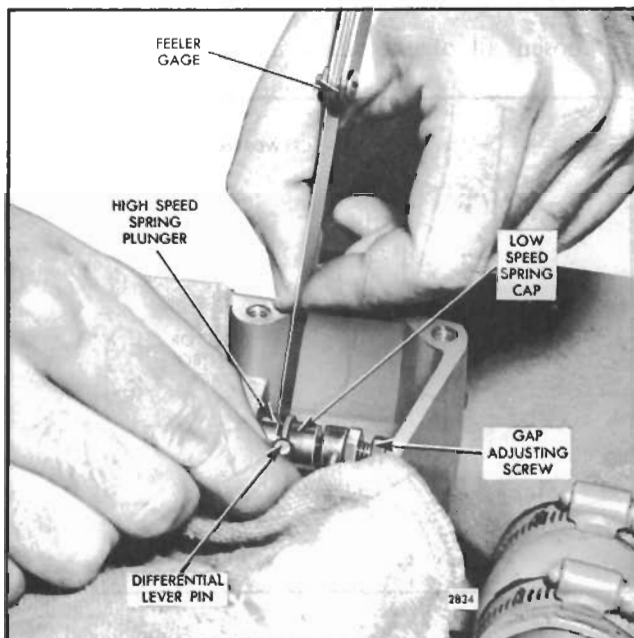

Fig. 1 - Adjusting Governor Gap
6. Check the gap between the low speed spring cap and the **high speed** spring plunger (Fig. 1) with a .0015" feeler gage. If the gap setting is incorrect, reset the gap adjusting screw. If the setting is correct, the .0015" movement can be seen by placing a few drops of oil into the governor gap and pressing a screw driver against the gap adjusting screw. Movement of the cap toward the plunger will force the oil from the gap in the form of a small bead.